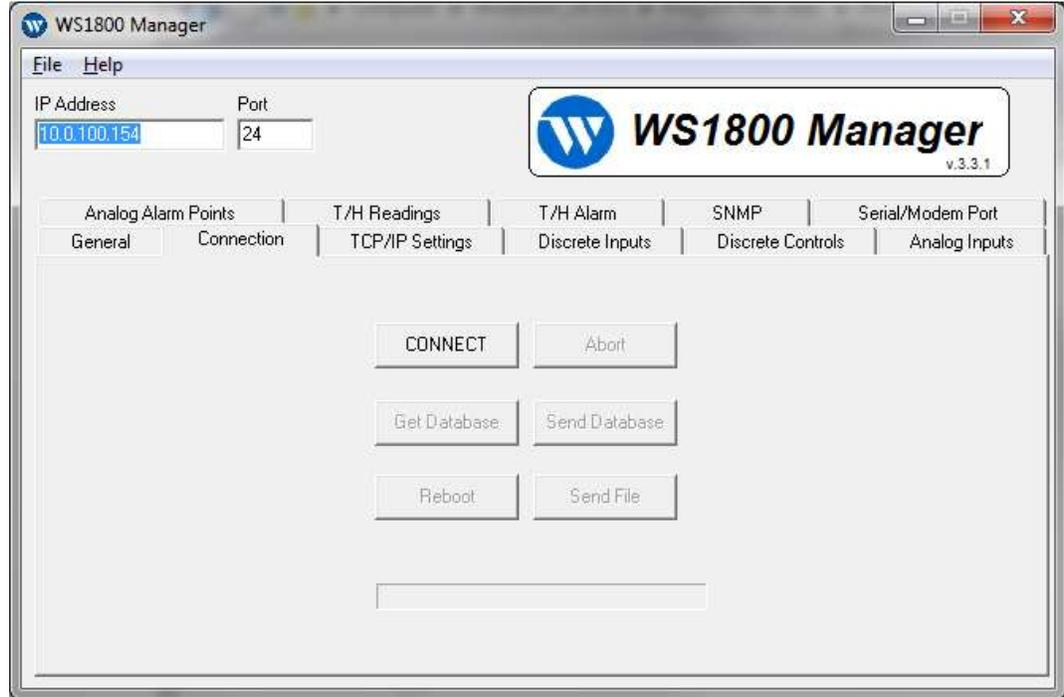

Figure 9 – Connection Tab when NOT connected to an RTU
1. Note that when the application is not connected to an RTU as shown above in Figure 9, all buttons except the Connect button are inactive. (greyed out)